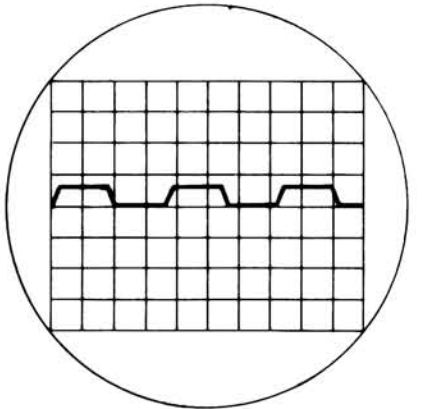

Fig. 11
11. Select **volts/power 400Hz filter** and **sine wave** input at a **frequency** of 1 KHz and adjust **oscillator level** for 100W output. Select **1 Ω load**. The output should clip equally on both halves of the waveform as shown in Fig. 11.